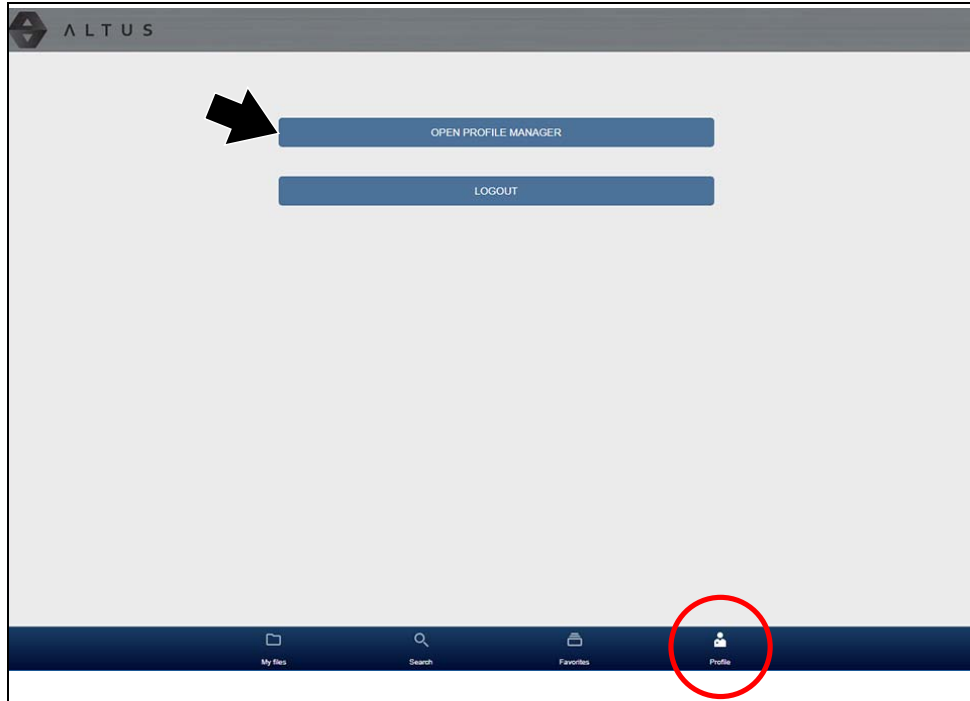

Figure 14-17
- Open Profile Manager (Figure 14-17), see Using Profile Manager on page 112
To open the Profile Manager screen, select **Profile** from lower toolbar, then select **Open Profile Manager** (Figure 14-17).